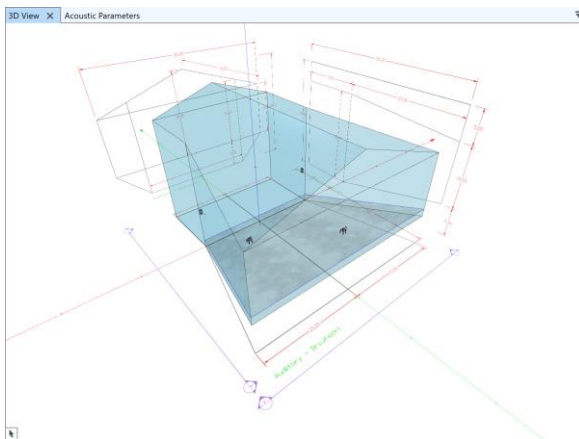

Figure 4.14 Central Wide Perspective.
- In CENTRAL WIDE mode, the central perspective and a wide viewing angle will be used. This typically corresponds to situations where the viewer is close to the building or inside the room (Figure 4.14).